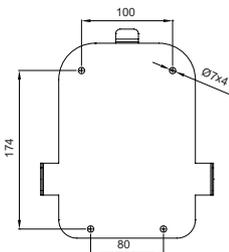

Fig. 4: Hole spacing on wall-mounting bracket
2. Using an 8mm diameter concrete drill bit, drill holes to match hole spacing on wall-mounting bracket (see Fig. 4).